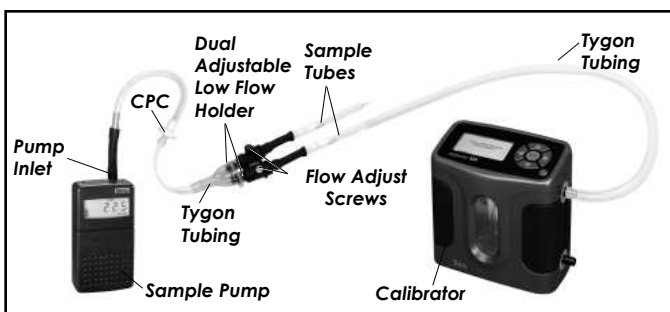

Figure 2. Calibration train with a dual adjustable low flow holder and 210 Pocket Pump
3. Calibrating the Flow Rate — See Figure 2